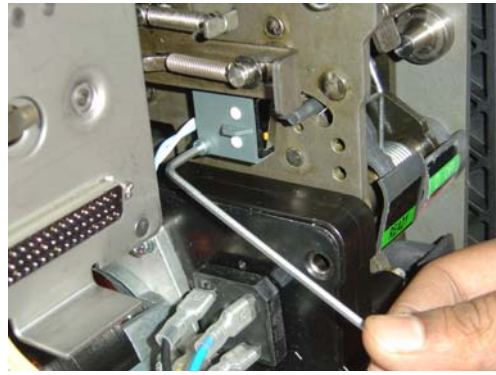

Figure 3. Screw assembly
5. Assemble the screw with washer as shown in Fig. 3 Tighten the screw to torque 1.2Nm (0.9 ft-lbs).